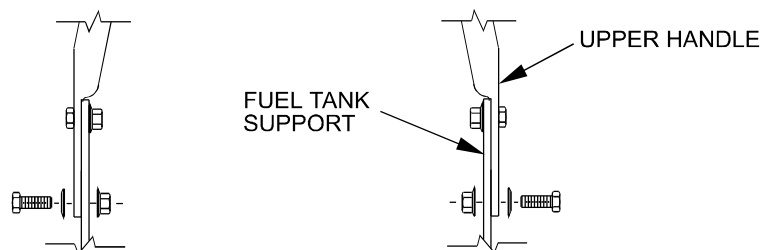

FIGURE 1
- 3.7 Position the lower end of the handle assembly on the outside of the upper rear section of the fuel tank and handle support. Install four 3/8-16 x 1" bolts (with four spring disk washers against the head of each bolt) from the outside in. Secure using four 3/8" whizlock nuts on the inside of each handle support and tighten until the spring disk washers are flat (See Figure 1).